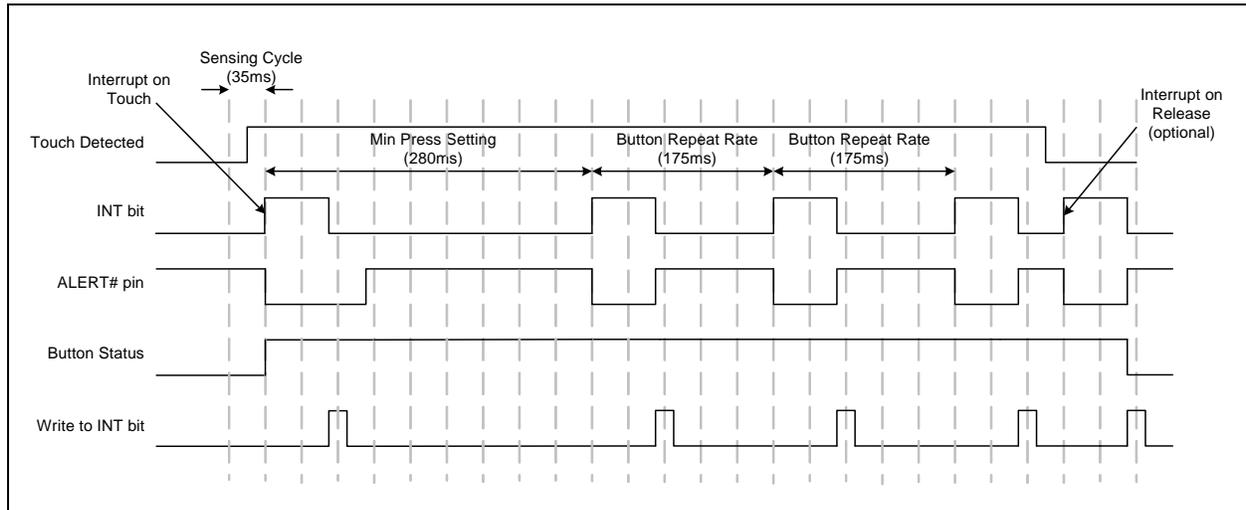
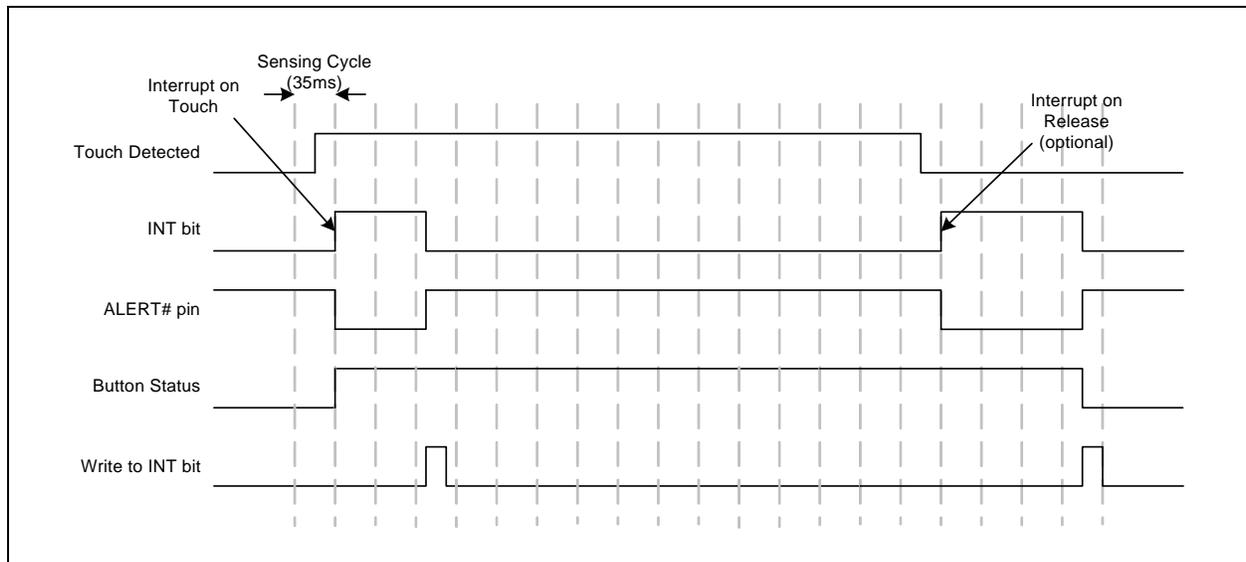

Figure 4.4 Sensor Interrupt Behavior - Repeat Rate Enabled
Figure 4.5 Sensor Interrupt Behavior - No Repeat Rate Enabled
1. An interrupt is generated when a touch is detected and, as a user selectable option, when a release is detected (by default - see INT_REL_n in Section 5.6.2, "Configuration 2 - 44h"). See Figure 4.5.
2. If the repeat rate is enabled then, so long as the touch is held, another interrupt will be generated based on the programmed repeat rate (see Figure 4.4).
APPLICATION NOTE: Figure 4.4 and Figure 4.5 show default operation which is to generate an interrupt upon sensor pad release.